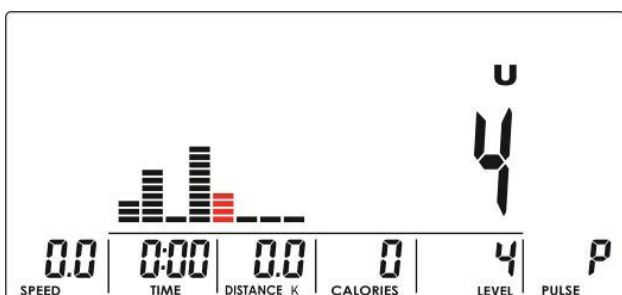

Fig. 16
2. Create a user profile (fig. 16) with the encoder. All in all, there are eight columns. The user can set the intensity level of every column. Press MODE/ENTER for two seconds to finish it during the setting.